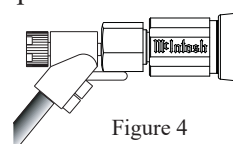

Figure 4
4. Referring to figure 4, connect the Loudspeaker hookup cables with banana plugs into the hole at the end of the terminal to the ML1 Negative (-) LOW Input Terminal and Positive (+) LOW Input Terminal.
5. Referring to figure 4, connect the Loudspeaker hookup cables with banana plugs into the hole at the end of the ML1 LOW Negative (-) and Positive (+) Input Terminals. Then connect cables to the ML1 HIGH/MID Negative (-) and Positive (+) Input Terminals.